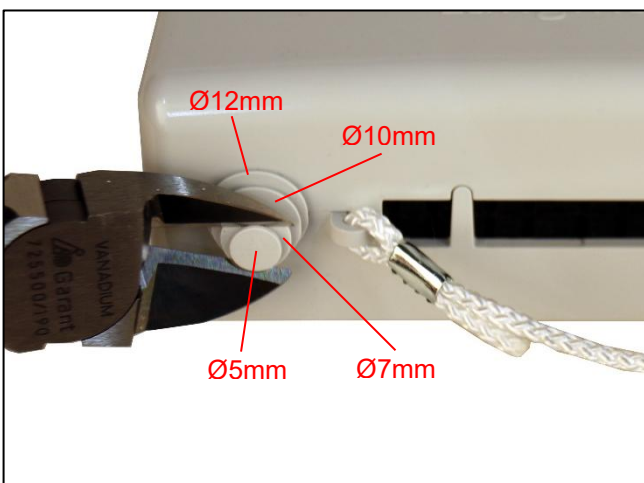

Fig. 4
- For diameter dimensions, refer to Fig. 4